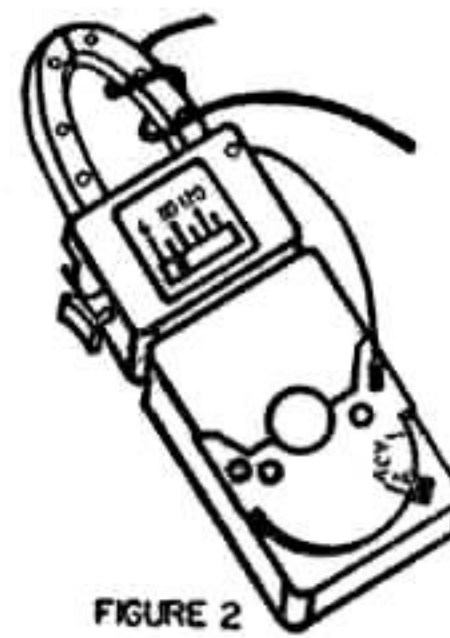

FIGURE 2
(5) Reset range switch on Model 10-C providing greatest pointer deflection. When reading is below the half scale on the lowest range (6 amperes) greater accuracy may be had by wrapping the conductor twice around the jaws. The correct reading thus would be divided by two. (See Fig. 2). If three turns then divide by three, etc.